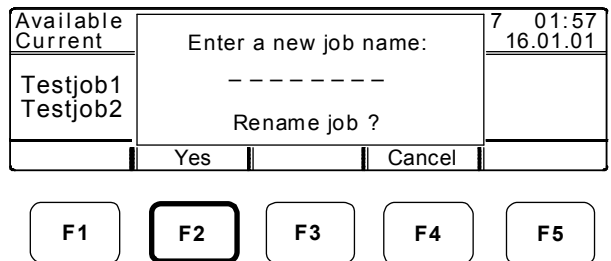

Figure 14-22. Job-Management Menu with Message
2. Press F4 (Rename). The “Enter a new job name: _____ Rename job?” message displays (Figure 14-22).